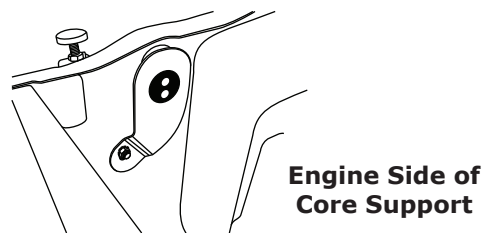

Figure 6a
1. Install the hardline support bracket onto the engine side of the core support as shown in Figure 6a, below.
2. Insert the grommet into the hardline support bracket as shown in Figure 6a, below.
1. Knock out the plate on the core support, and install the hardline support bracket on the engine side of the core support as shown in Figure 6a, below. **NOTE: 1969 models will use the OEM bolt to secure the hardline support bracket to the core support. 1970 models will use a 1/4-20 x 1/2" bolt, flat washer and nut with star washer.**